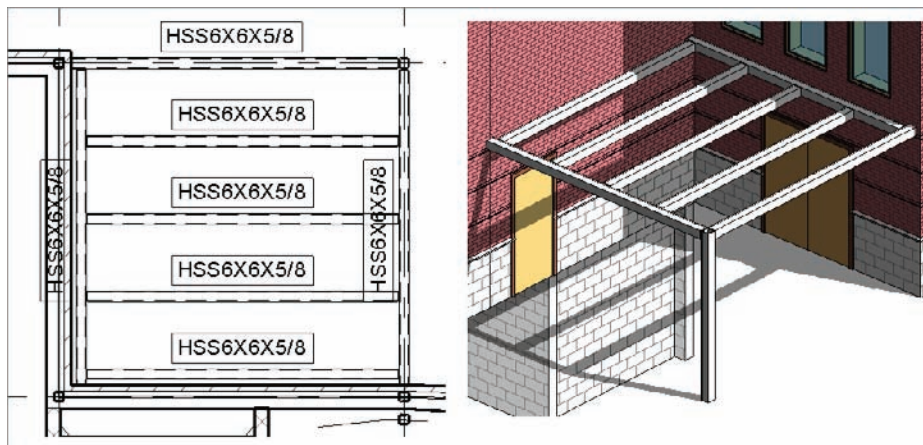

FIGURE 8.43 The framing at the canopy
7. When you see the green lines, pick the top beam, and your framing will be placed (see Figure 8.43).